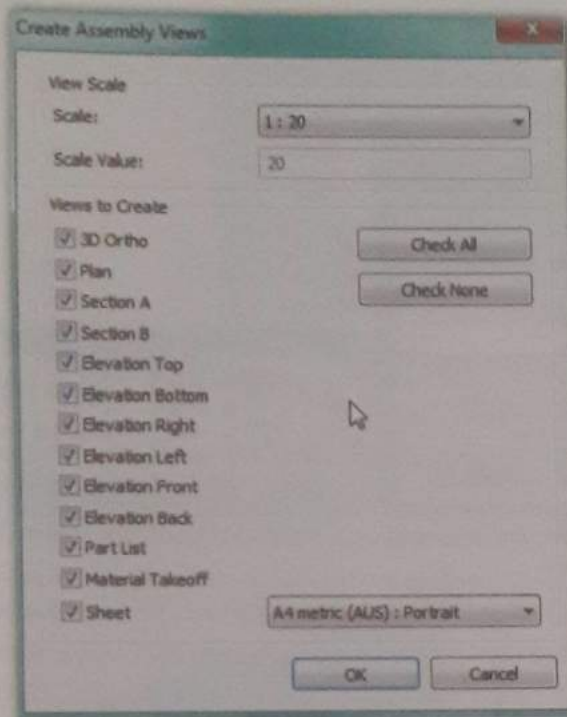

Figure 103: Assembly Views
3. In the assembly create views dialogue box, select the views which you want to create and choose the scale and if sheet is selected, specify title block information also (Figure 103).